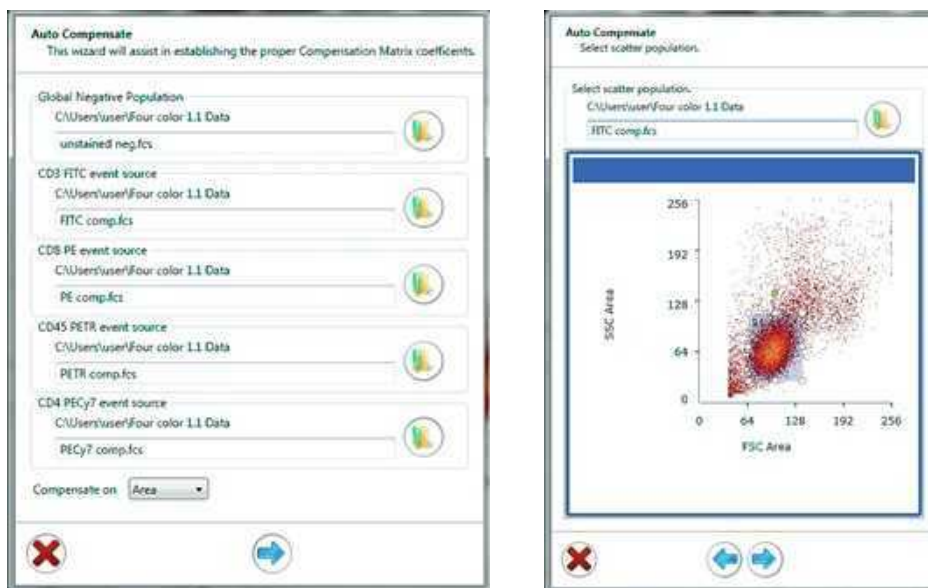

Fig. 62. Use the auto compensation wizard to select individual parameter FCS files and adjust regions.
4. Select the parameters for compensation (Figure 62).
5. Click the file icon for each selected parameter (Figure 62).